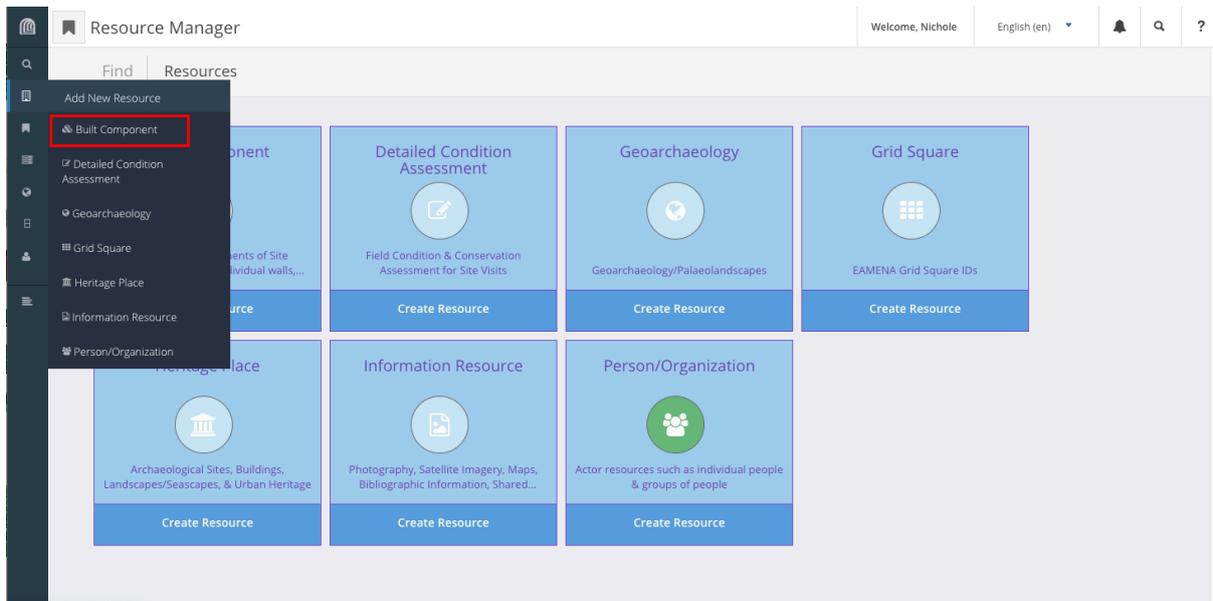

Figure 2: Adding a new Built Component from the left side menu
- Alternatively, you can go directly to a new Built Component record by hovering over the Resource Manager icon on the left side, then choosing 'Built Component' from the list that appears (Figure 2).